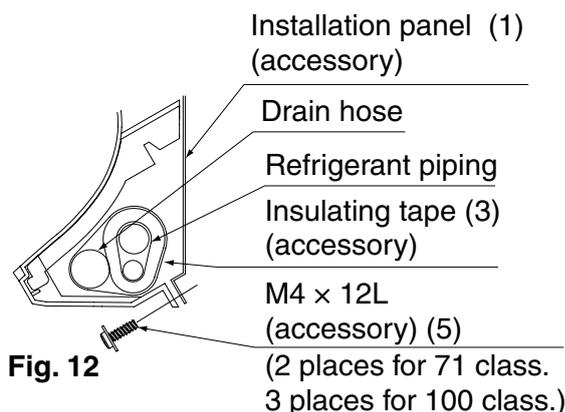

Fig. 12
- Secure the indoor unit to the installation panel (1) with the securing screws (5). (Refer to Fig. 12)